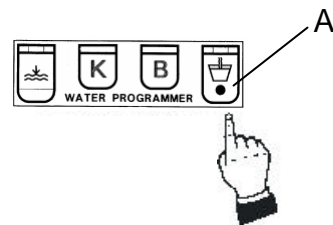

Figure 1
7. Operate the head using the buttons or lever controls (if the machine is mechanical). (See Figs. 1, 2, 3, 4) (page 12).
**MACHINES WITH AUTOMATIC HOT WATER DISPENSERS: (Fig. 1).**
- b) Press button (A) on the keypad and allow the water to be dispensed to the desired level. Press the button again to stop.
- d) Check correct dosage by pressing button (A) on the keypad.